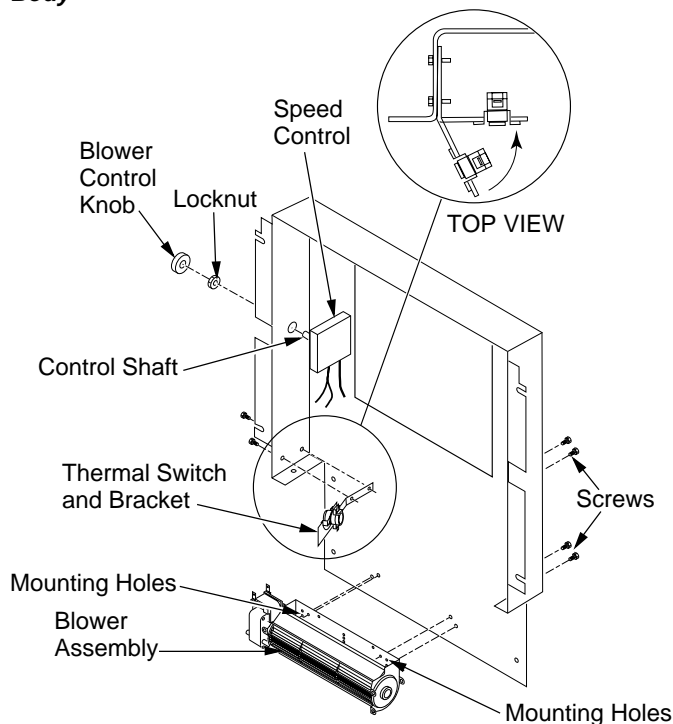

Figure 17 - Blower Assembly, Speed Control, and Thermal Switch Locations
3. Align the holes in the top mounting tabs of blower with the holes in wall of rear cover. Using the 4 screws provided, mount blower and tighten screws securely (see Figure 17).
4. Attach thermal switch and bracket to inside rear cover wall with two hex head screws provided as shown in Figure 17. After securing bracket to rear cover, carefully bend along existing bend line on bracket to almost a 90° angle (see Figure 17). This will allow thermal switch to be positioned against stove rear wall and sense temperature when in operating mode.
- Place speed control on left inside of rear cover and push the plastic control shaft through opening (see Figure 17, page 7).